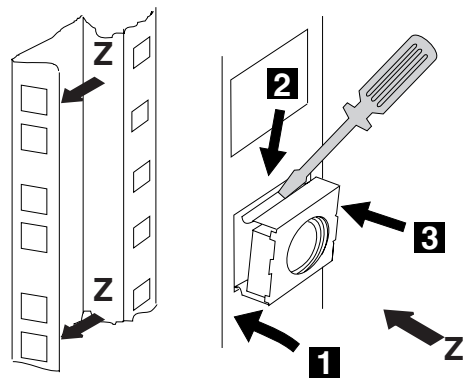

Figure 13. Installing the Captive Nuts for the 7585
3. Refer to Figure 13 on page 14, install four captive nuts (PN 58G5766) on the left and right side of the controller expansion.
- \_\_\_ 2. Install the two captive nuts (PN 58G5766) see Figure 13 on page 14.